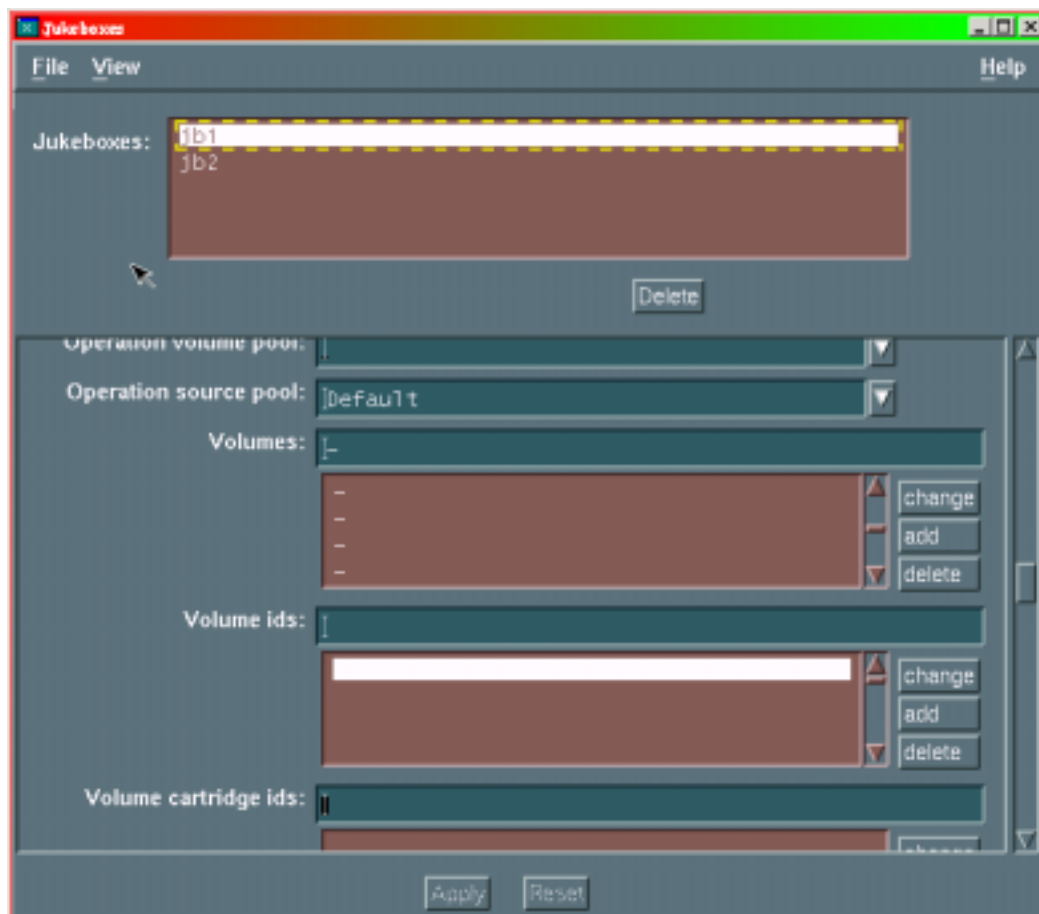

Figure 18.6 – Jukebox Volumes removed
13. After the operator clicks **Apply**, the screen will refresh and go to the top. Scroll down to the volume window to verify the intended volumes are removed from the list. Figure 18.6 is an example.